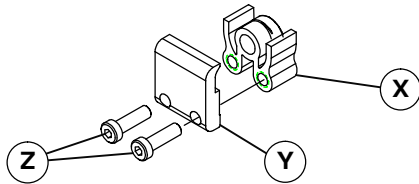

Figure 12
1. Typical return roller components (Figure 12)